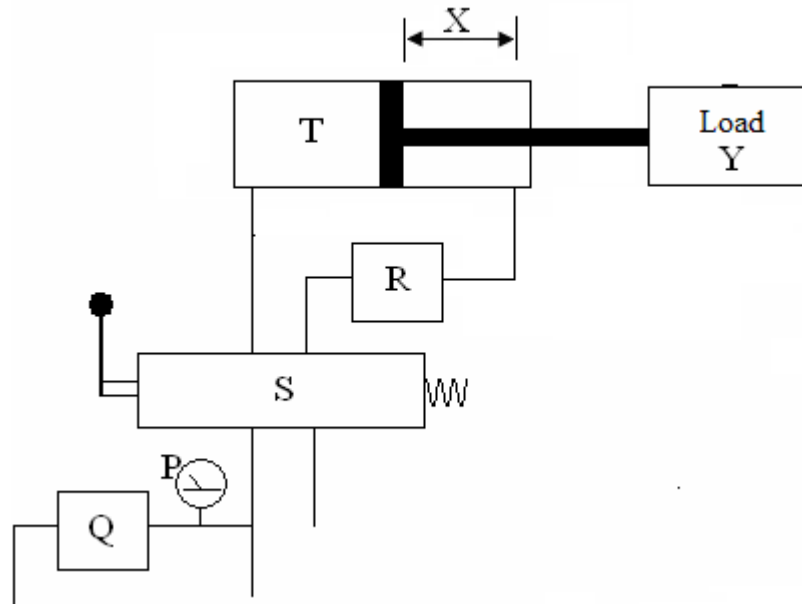

Figure 4
4. Figure 4 shows a schematic circuit hydraulic system that is not complete to push load Y. A cross sectional area of piston is 1600 mm^2 and its movement is under control. The distance of X is 200 mm.